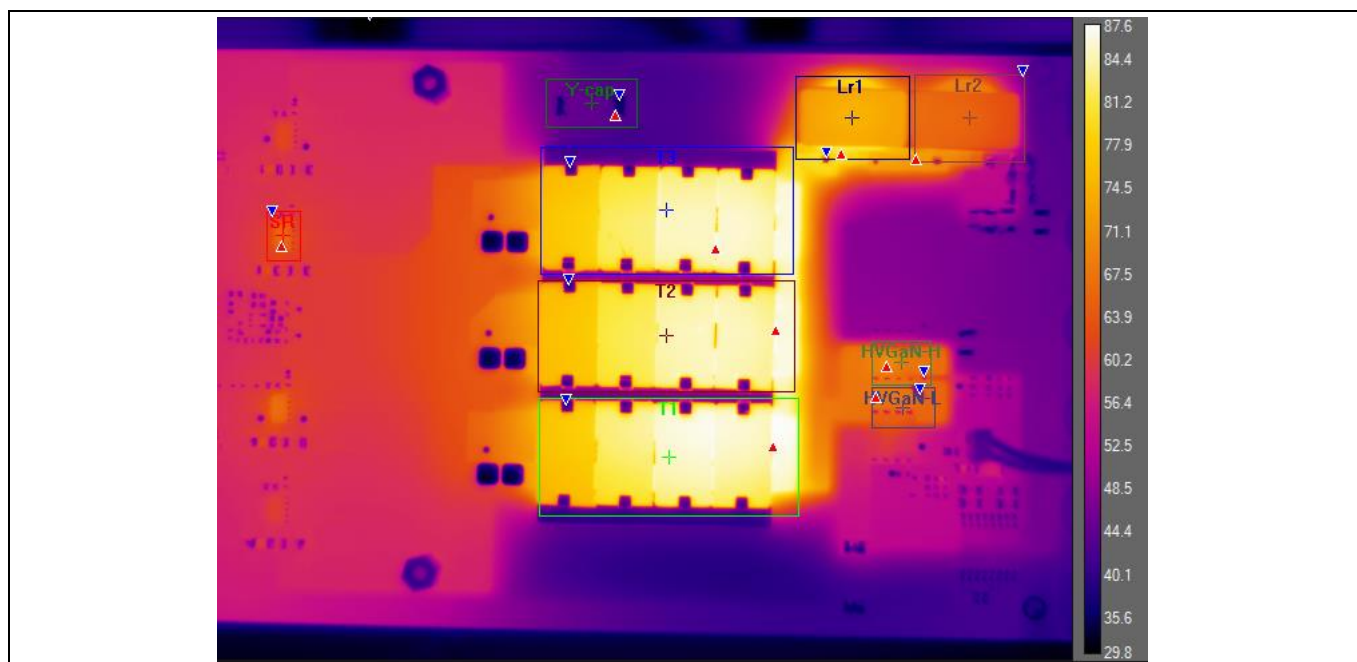

Figure 26 Thermal image of the half-bridge LLC board at full power with 400 V DC input voltage
- Figure 26: Thermal image of the unit under test with 400 V DC input and operating at full power